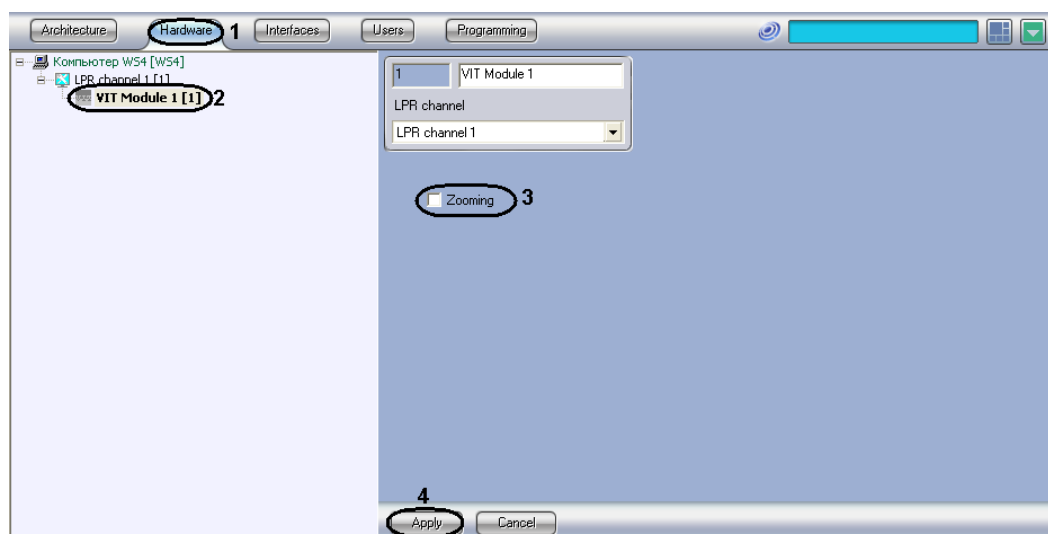

Fig. 7.2—6 Setting up the VIT program module
2. In the objects tree on the Hardware tab select the VIT object, corresponding to the set VIT program module (Fig. 7.2—6, 2). The settings panel of the selected object will open on the right of the window.
3. Set the «Zooming» check box to increase the plate recognizing speed on mega-pixel vedio cameras without loss of recognizing quality (Fig. 7.2—6, 3).